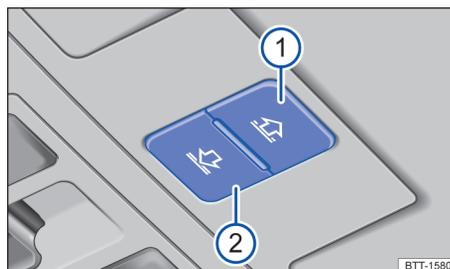

Fig. 83 On the headliner: sun blind control buttons.
Buttons → Fig. 83 (1) and (2) have two stages. Press the buttons into the first stage to open or close the sun blind completely or partially.
- Press the → Fig. 83 button ② within approximately 5 seconds after activating the roll-back function, until the sun blind is completely closed.